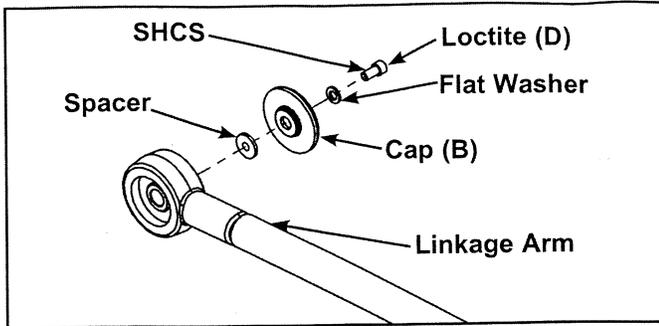

Figure 6
- A. Using a 3/16" Allen wrench, remove the Socket Head Cap Screw (SHCS), flat washer, cap and spacer securing the left linkage arm. See Figure 6.
- C. Using a 3/16" Allen wrench, attach the SHCS, flat washer, new cap (B) and spacer securing the left linkage arm. See Figure 6.